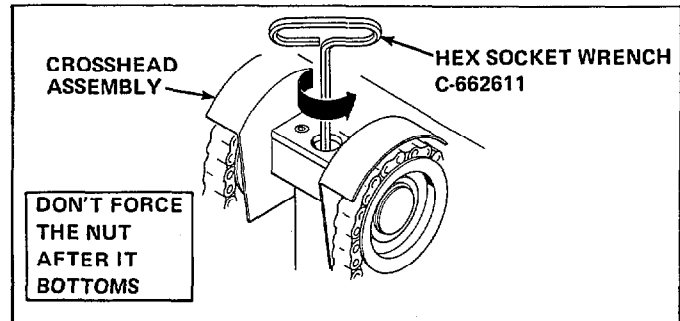

Figure 20. Turning the Adjusting Nut Counterclockwise.
3. Turn the adjusting nut counterclockwise until it bottoms. The nut is crimped slightly to prevent free-turning so it may be a little stiff. **Don't force the nut after it bottoms.** See Figure 20.